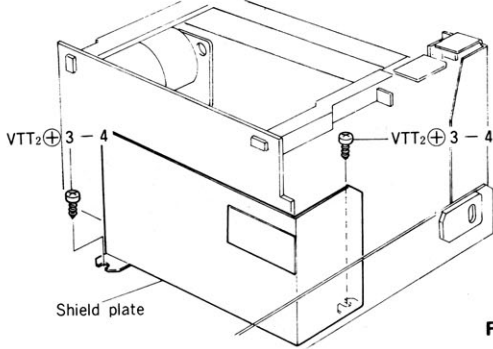

Fig. 25
2) Remove 2 screws of the shield plate. (Refer to Fig. 25)